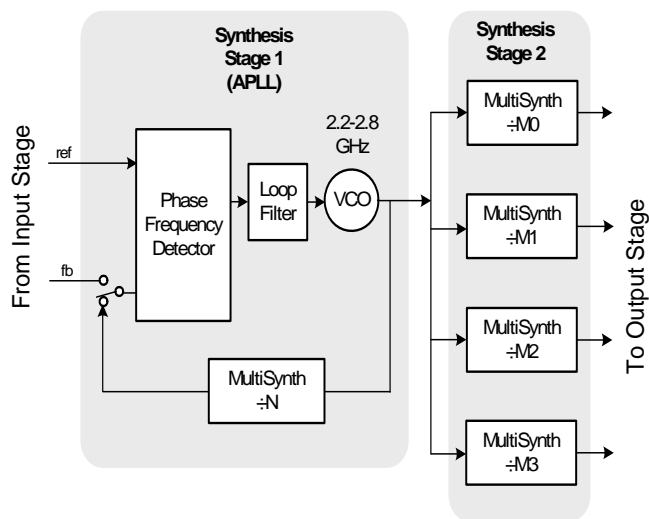

Figure 5. Synthesis Stages
Synthesis of the output clocks is performed in two stages as shown in Figure 5. The first stage is a high-frequency analog phase-locked loop (PLL) that multiplies the input stage clock to a frequency within the range of 2.2 to 2.8 GHz. Multiplication of the input frequency is accomplished using a proprietary and highly precise MultiSynth feedback divider (N), which allows the PLL to generate any frequency within its VCO range with less jitter than typical fractional N dividers.